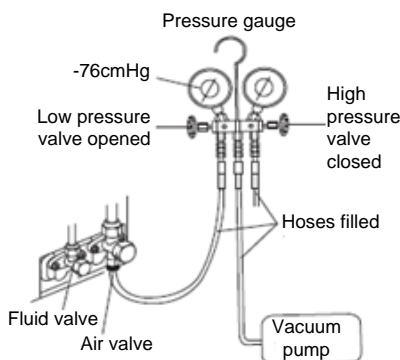

Figure 7-4 Vacuum pump connection diagram
- ① Connect the filling hose to the fluoride injection mouth of the air valve. Ensure that the valve cores of the air valve and fluid valve are tightly closed.
- ② Connect the joint of the filling hose to the vacuum pump, as shown in Fig. 7-4.
- ③ Fully open the low pressure valve of the pressure gauge.
- ④ Start the vacuum pump to vacuumize the air for 20 minutes or more, and ensure that the pressure gauge pointer points to  $-1.0 \times 10^5 \text{ Pa}$  ( $-76\text{cmHg}$ ). Close the low pressure valve, and stop running the vacuum pump. Wait 2 minutes. If the number indicated by the pressure gauge pointer does not rise, the vacuumization and piping are successful. If the number indicated by the pressure gauge pointer rises, it indicates that air is entering the system. In this case, check the piping for leaks, and vacuumize the air again.
- ⑤ Remove the filling pose from the air valve.
- ⑥ Fully open valve cores of the gas valve and fluid valve.
- ⑦ Tighten the valve caps of the air valve and fluid valve, and the fluoride injection mouth nut.
- ⑧ Tighten the valve caps, and then use a leak detector or soapy water to check whether the pipes for connecting the outdoor unit and the water tank leak.